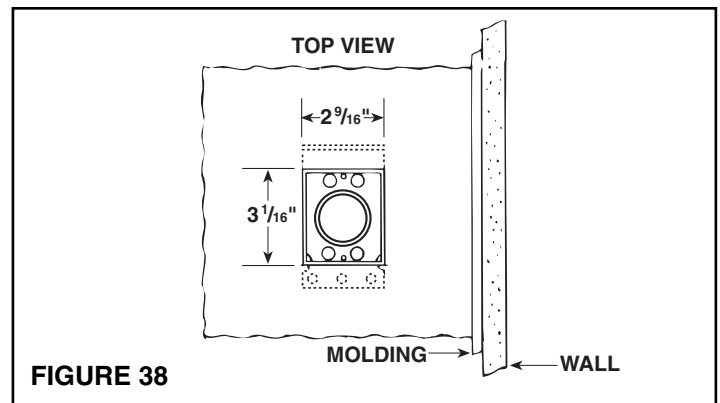

FIGURE 38
1. Refer to Figures 38 and 39. After floor inlet location has been selected, cut a $3\frac{1}{16}$ " x $2\frac{9}{16}$ " square hole in floor. Center line of inlet must be located at least $2\frac{1}{2}$ " from wall to allow cover to be opened when hose is inserted.
2. Determine direction of tubing and attach appropriate flanged fitting to mounting bracket with four (4) screws supplied. **Be sure mounting bracket flange does not interfere with tubing and seal is securely in place.**